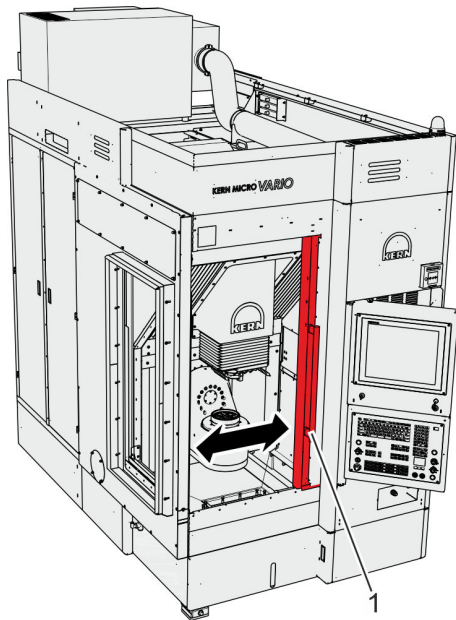

Fig. 47: Opening the sliding door
3. ➤ Open the sliding door to the work area completely to the right using the handle (Fig. 47/1).
4. ➤ To close the sliding door, use the handle (Fig. 47/1) to push it to the left as far as it will go.
6. ➤ Open the sliding door to the work area completely using the handle (Fig. 47/1).